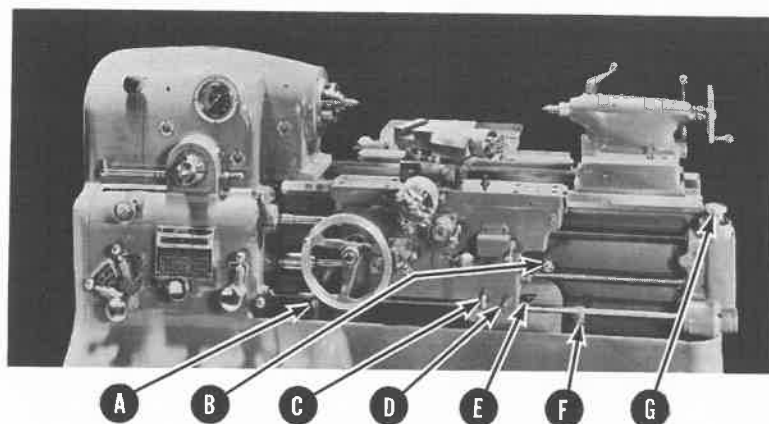

FIGURE 11. Electric Leadscrew Reverse
1. Set knob (G) Figure 11 for right hand or left hand threads as required.
2. Rough position stops (A) and (F) for the start and finish position of the carriage.
3. Loosen lock (D).
4. Knob (C) provides final position adjustment for the carriage stop bars (E).
5. Tighten lock (D).